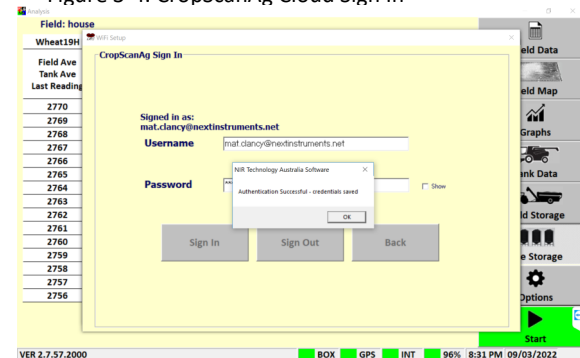

Figure 3-5. CropScanAg Cloud Authentication
- Press the Sign In button to link the CropScan Display to your CropScanAg Cloud server. Wait for a Authentication Successful notification as shown in figure 3.5.